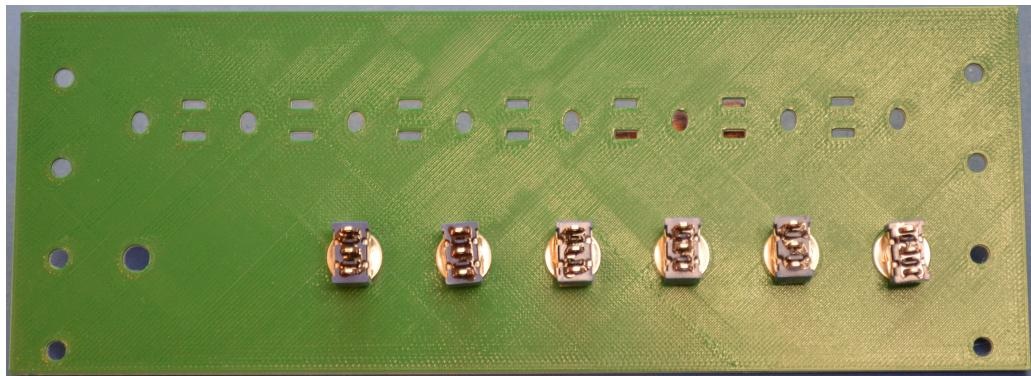

Figure 2.19: Control Panel Switches Showing Switches Installed
- Install the switches as shown in Figure 2.19. This example shows a control panel that only has six switches.